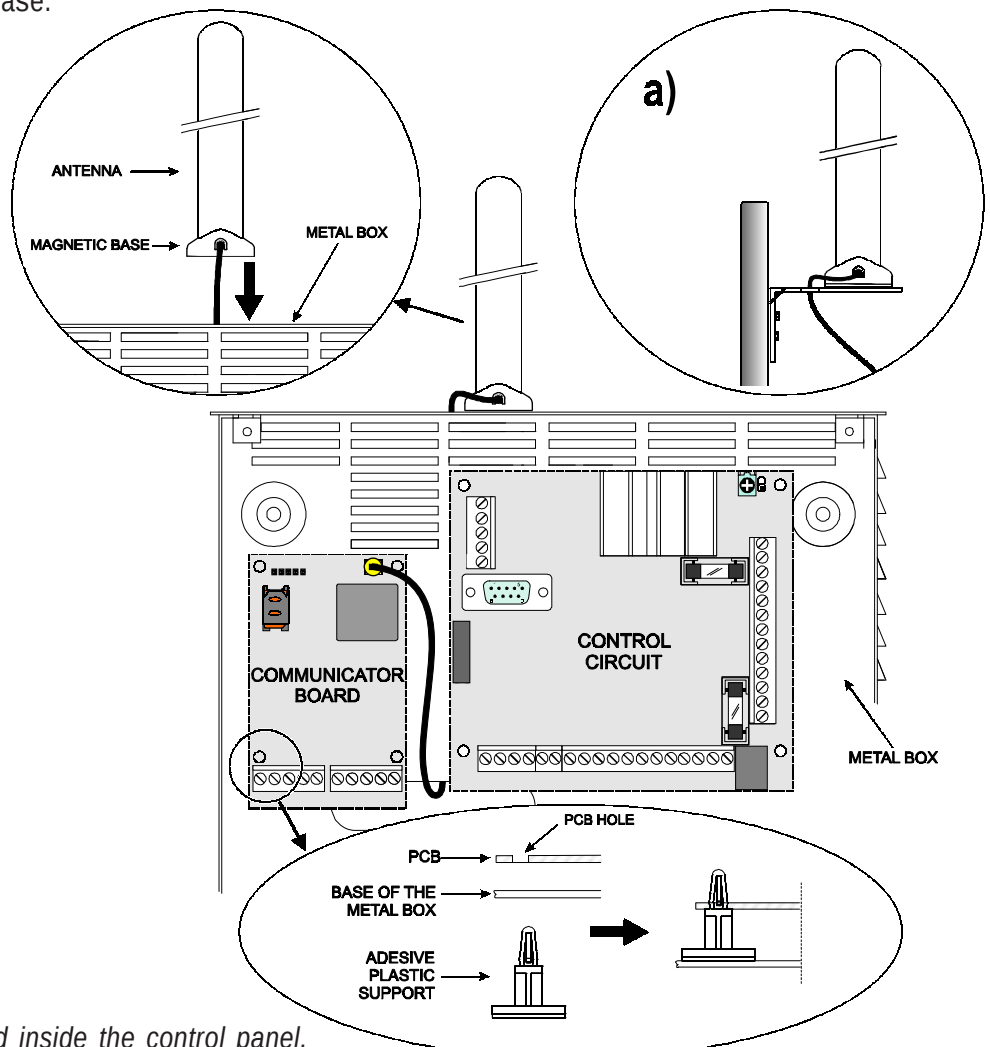

Fig. 2 - Mounting of electronic card inside the control panel.
3. Position the 4 adhesive plastic supports [14] on the base of the metal casing, then fit the holes [7] on the Electronic board into the adhesive plastic supports, as illustrated in Figure 2.
- 4a. Fix the antenna with the 25 cm wire or the antenna with the 2 mt wire [1] above the metal casing (Fig.2) in such manner that the magnetic base [2] will be conjoint with the surface. Feed the antenna cable through the cable feed opening in the metal casing. For models BGSM-100KEA or BGSM-120KEA it is possible to use the metal support [13] could be used, see Fig.2a. Fix the metal support [13] by using the holes [12] on an adequate prop. Fix the antenna with the 25 cm wire or the antenna with the 2 mt wire [1] above the metal support [13] (Fig.2a), in such manner that the magnetic base [2] will be conjoint with the surface. Pass the antenna lead through the hole [11] in the metal support [13].